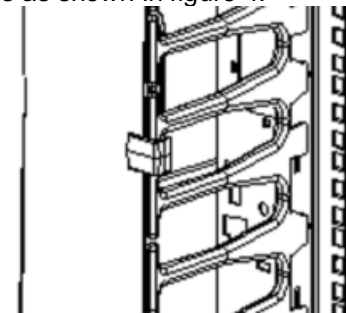

Figure 4
5. The door can now be rotated until the door locks snap in between the ends of the cable fingers as shown in figure 4.